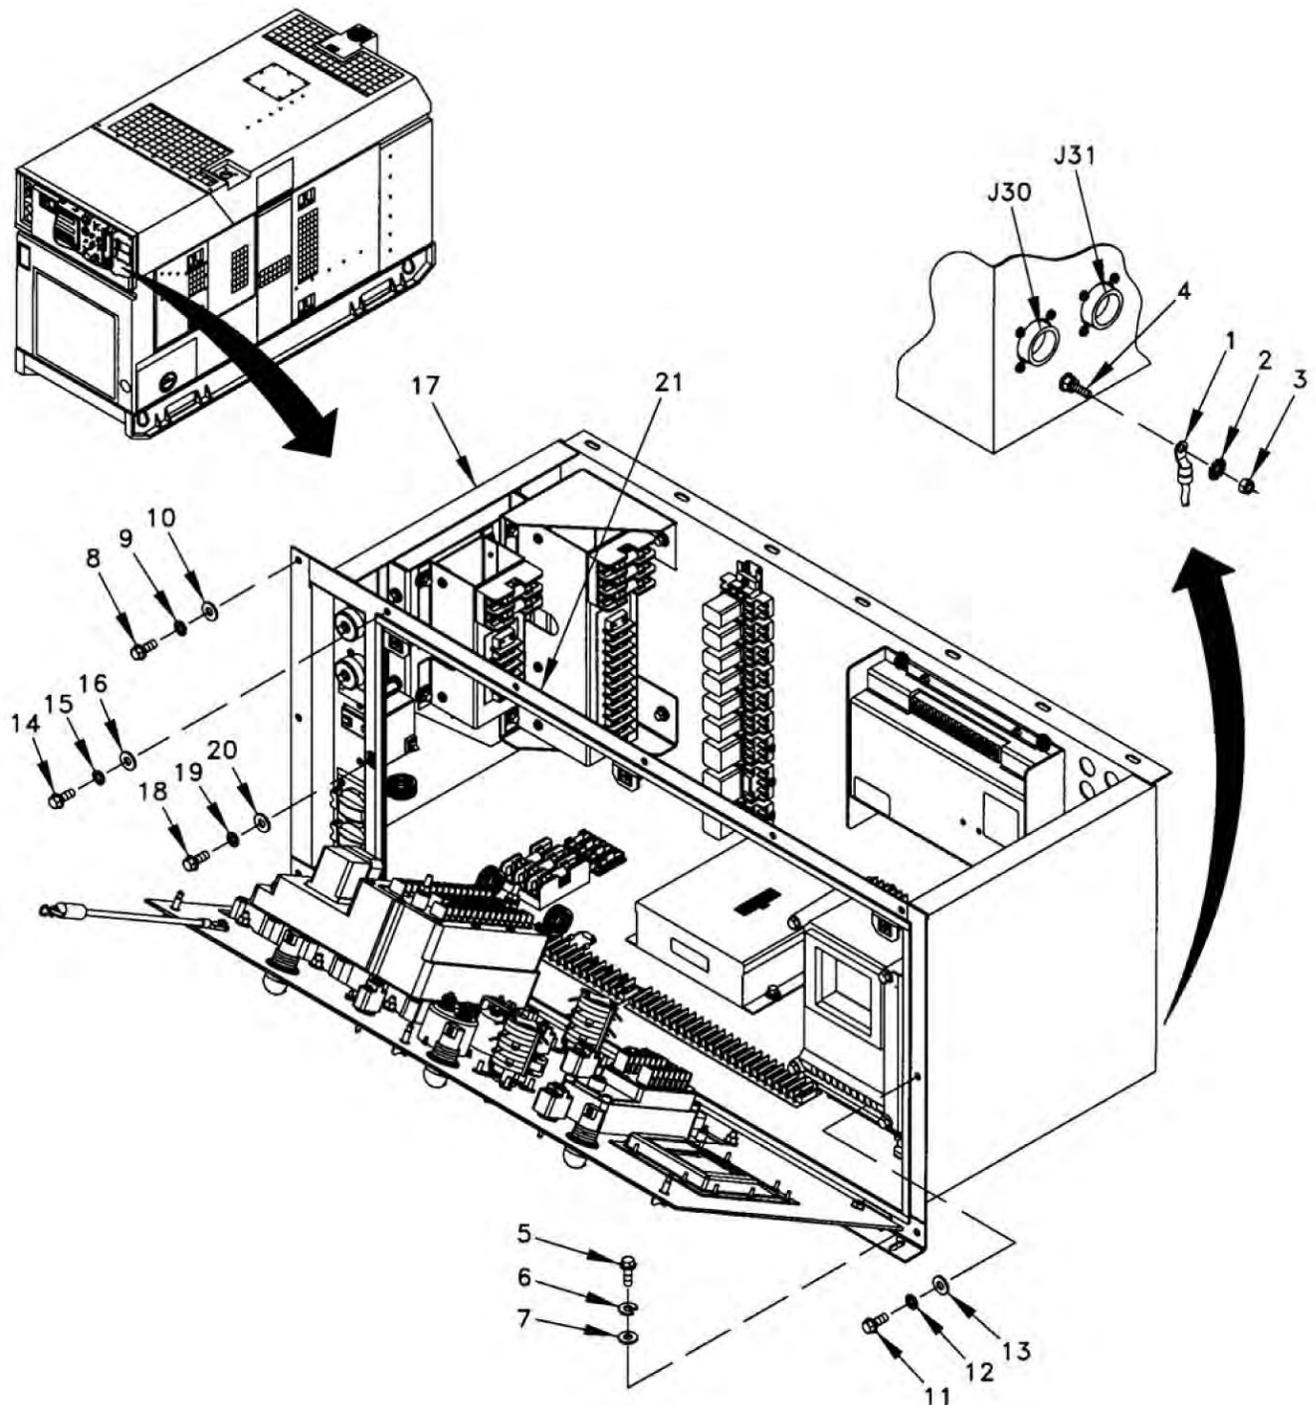

Figure 1. Control Box.
5. Remove ground wire (Figure 1, Item 1), washer (Figure 1, Item 2) and locknut (Figure 1, Item 3) from back of control box terminal (Figure 1, Item 4).
6. Remove seven screws (Figure 1, Item 5), lock washers (Figure 1, Item 6), and washers (Figure 1, Item 7).
7. Remove three screws (Figure 1, Item 8), lock washers (Figure 1, Item 9), and washers (Figure 1, Item 10).
8. Remove two screws (Figure 1, Item 11), lock washers (Figure 1, Item 12), and washers (Figure 1, Item 13).
9. Remove five screws (Figure 1, Item 14), lock washers (Figure 1, Item 15), and washers (Figure 1, Item 16).
10. Slide Control Box (Figure 1, Item 17) out of generator set and place on suitable work surface.
11. If necessary, remove two screws (Figure 1, Item 18), lock washers (Figure 1, Item 19), washers (Figure 1, Item 20), and brace (Figure 1, Item 21).